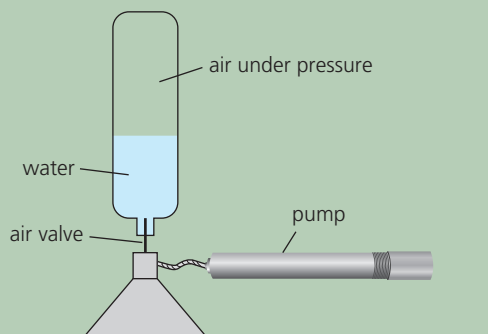

Figure Q2
2. Figure Q2 shows a model rocket for demonstrating the principle of rocket propulsion.